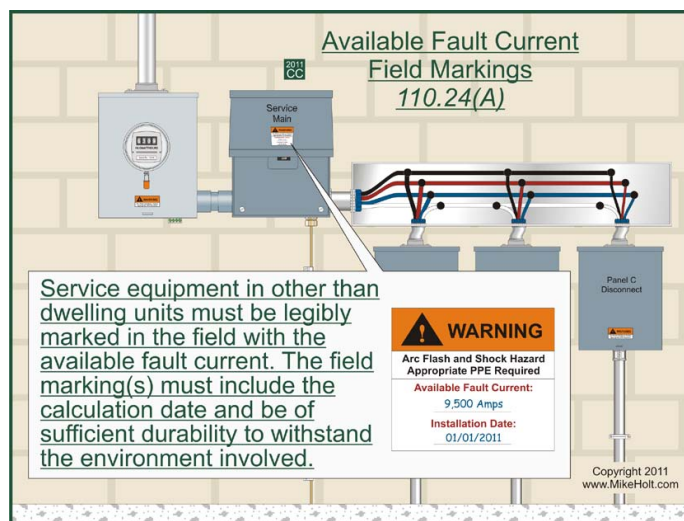

Figure 110-19
(A) Field Marking. Service equipment in other than dwelling units must be legibly field-marked with the maximum available fault current, including the date the fault current calculation was performed and be of sufficient durability to withstand the environment involved. **Figure 110-19**